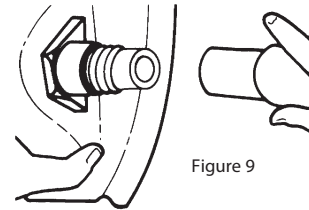

Figure 9
1. Connect breathing tube assembly to helmet by screwing plastic hose connector to fitting located on the side of the helmet. Turn clockwise to tighten (Figure 9).